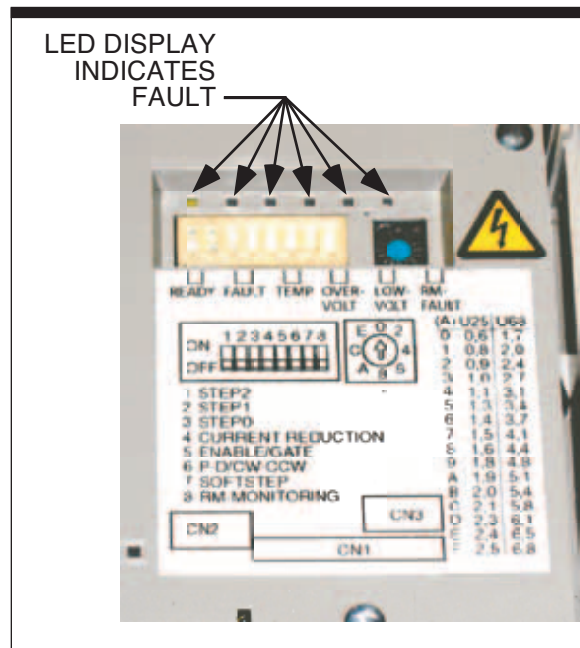

Figure 6-1. Stepper Drive Motor Fault Display
Stepper driver errors can be: over-temperatures (of motor or power amplifier), short circuit (between two motor phases or between motor phase against PE), over-voltage, low-voltage, rotation monitoring (RM) fault, power amplifier deactivation, or motor current free. Refer to the LED status display of the stepper motor drive inside the electrical cabinet (see Figure 6-1).